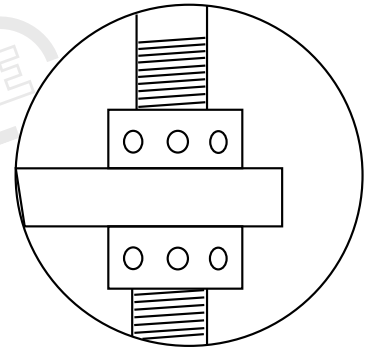

Fig.1
1. Remove the plastic plug on the side of the level. Behind the plastic plug you will find two locking nuts. (Fig 1.)